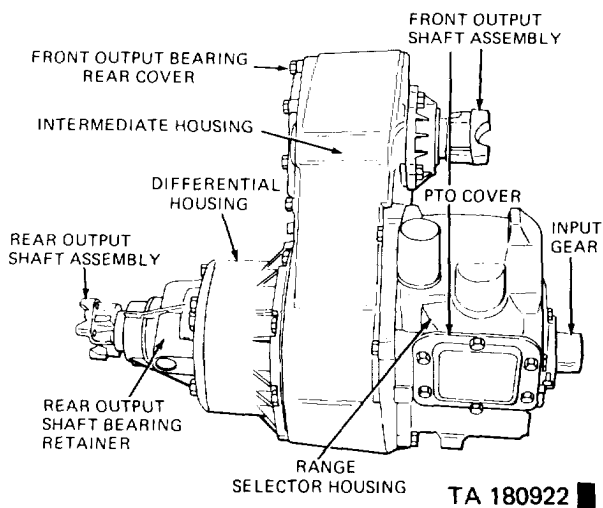

Figure 17-1. Transfer Case in Position for Removing Output Yokes.
(1) Position the drained transfer case on a suitable work table (figure 17-1), and remove the speedometer drive gear adapter.